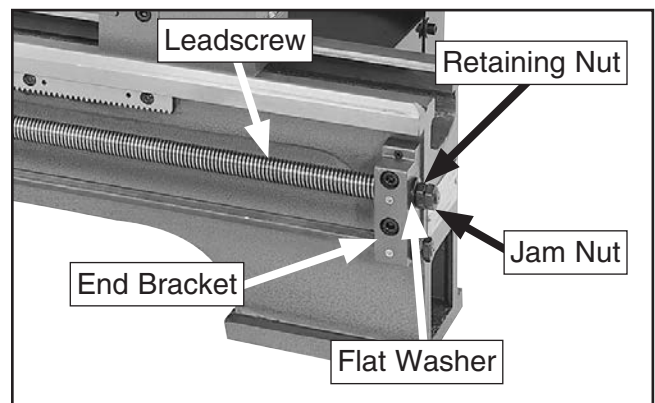

Figure 122. Leadscrew end play adjustments.
2. Loosen jam nut shown in **Figure 122**.